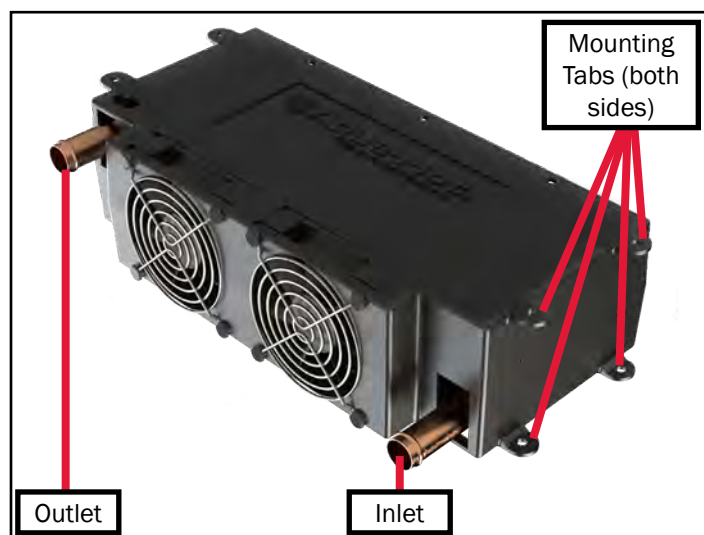

Figure 69
- The anti-freeze and water heating solution must flow in through the bottom of the heat exchanger, and out the top (reference Figure 69).
- It is required to have a MINIMUM of two (2) heat exchangers and MAXIMUM of four (4) heat exchangers.
2. Mount each heat exchanger permanently into place. There are 4 tabs on both sides - see Figure 69.